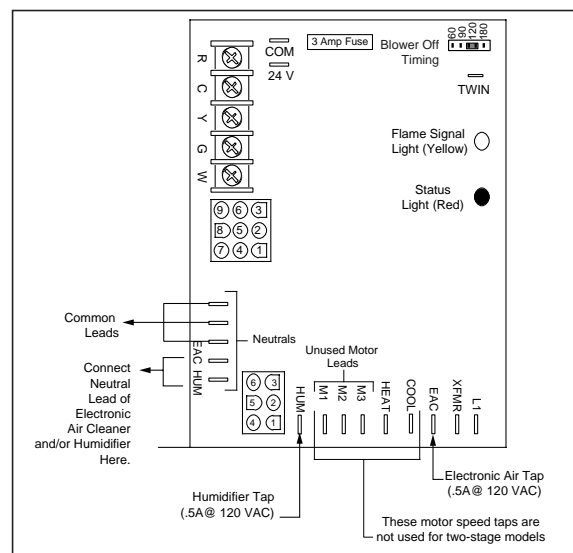

Figure 28. Blower Speed Tap Location
The furnace is equipped with a multispeed motor. Heating and cooling speed selection is made by moving the leads on the integrated control board located in the furnace. The wiring diagram on the furnace and Figure 28 show the speed taps for adjusting motor speed.
The blower control is designed to start the circulating air blower 30 seconds after the gas valve is opened. The blower control is factory wired to turn the blower motor off 120 seconds after the gas valve is closed. This timing can be changed using the BLOWER OFF timing switch opposite the terminal block on the control board (See Figure 28).
11. The furnace control keeps the circulating air blower energized for 120 seconds (factory set) or 60, 90, or 180 seconds (field adjustable). (See Figure 28.)